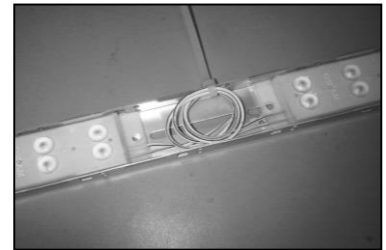

Figure 4
- 3.3.7 Tie wrap any excess wire length to inside of track to prevent shadowing (Figure 4)